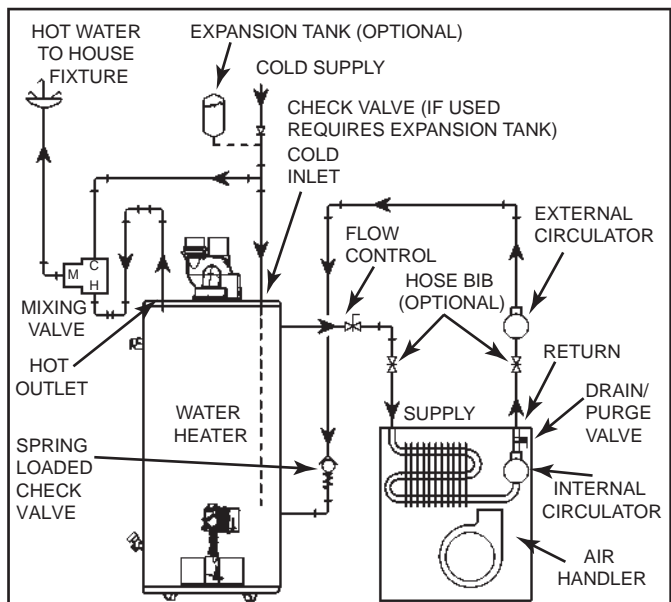
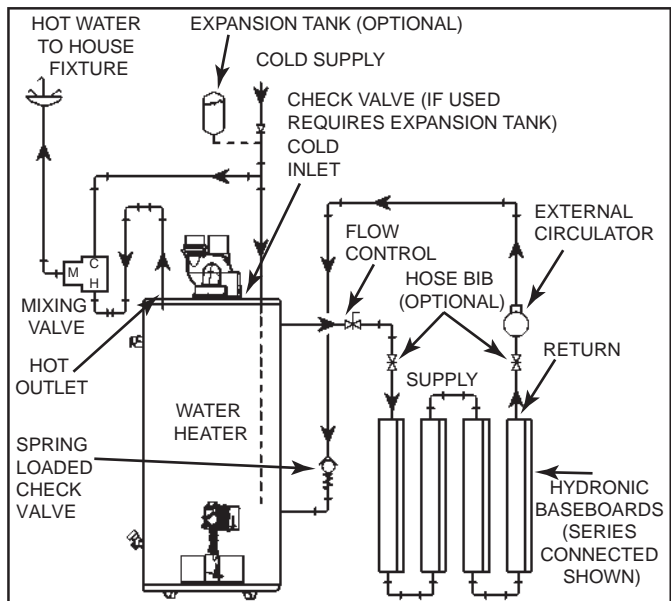

Figure 14.
Figure 15.
8. "Combo" Heating Systems require higher water temperatures than other applications. When the system is used to supply water for Combo Heating applications, a means, such as mixing valve, must be installed to temper the water in order to reduce scald hazard potential (see Figure 14 and Figure 15).
- A. A fan coil/air handler (Figure 14).
- B. A hydronic baseboard (finned tube) loop/In floor heating (Figure 15).